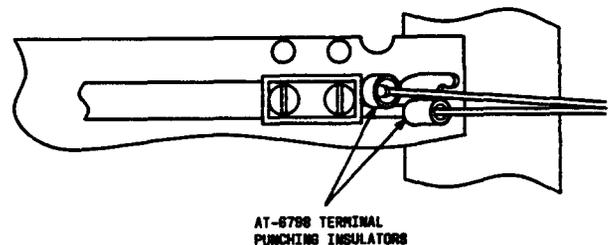

Figure 60—AT-6798 Terminal Punching Insulators on Protector Mounting
6.17 Binding post and terminal punching insulators (Figure 60) consist of cylindrical, rigid PVC tubes having a longitudinal slot the length of the tube. They are red in color.